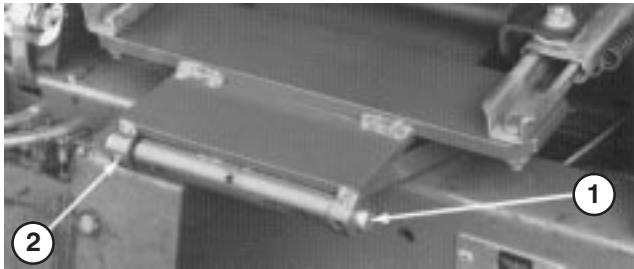

Figure 6
7. Mount seat and seat support to seat pivot bracket with pivot shaft and roll pin (Fig. 6).
9. Mount seat and seat support to seat pivot bracket with pivot shaft and roll pin (Fig. 6).